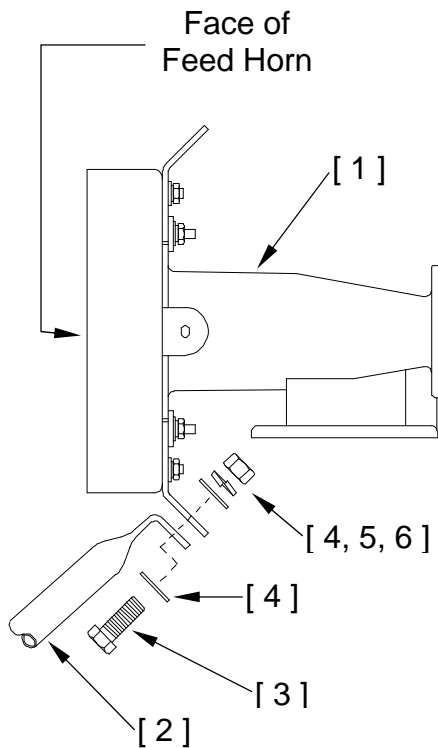
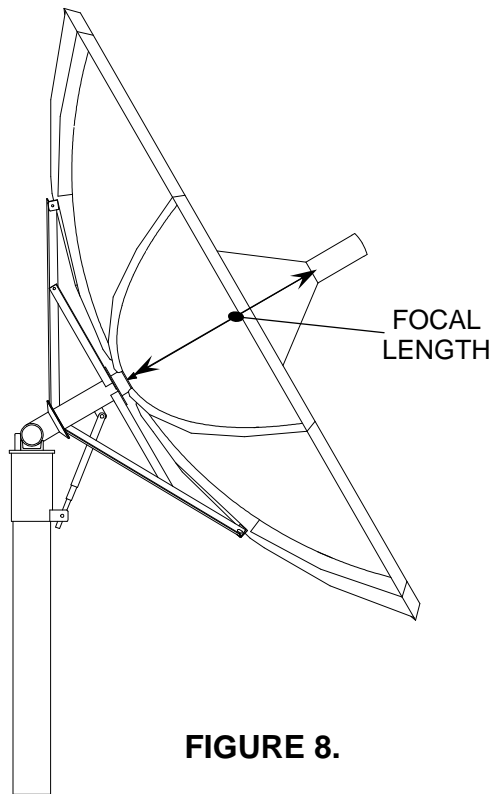

FIGURE 5.
FIGURE 8.
1. **FOCAL LENGTH** - As shown in figures 5 thru 7, attach the feed horn assembly to the four feed rods with the same 3/8" hardware as above. (For ku-band single POL only, insert the feed cover tab (item #7) between the feed horn and the 3/8" nut). Tighten the four bolts securely at this time. Check the focal length by measuring from the face of the feed horn to the reflector cover plate as shown in figure 8. If the focal length is incorrect, adjust the feed clevises in or out at the reflector surface as needed. Be sure that the clevises are adjusted equally. When the focal length is correct, tighten all feed support and clevis hardware securely. The focal length for the 3.0 meter is 35.8.